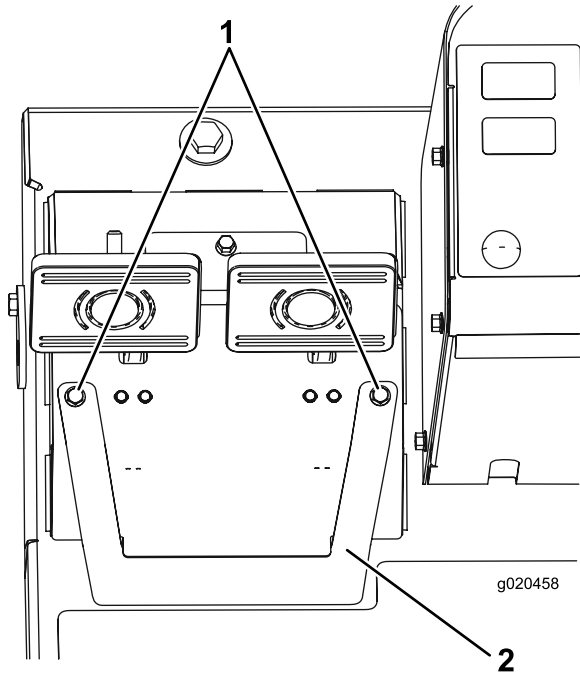

Figure 94
- A. Loosen the 2 mounting screws and remove the brake adjustment cover (Figure 94).